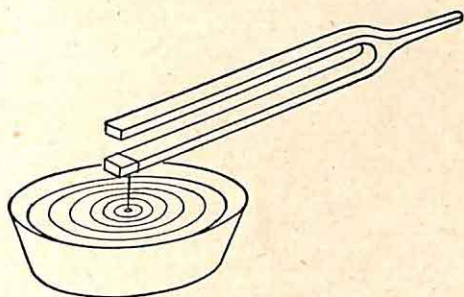

FIG. 70.
*Expt. B.*—One of the prongs of a tuning fork is fitted with a wire style. The fork is “sounded” and held so that the free end of the style just touches the surface of some clean mercury in a bowl (Fig. 70). The train of waves across this surface clearly reveals the continuous vibration of the prong of the fork.